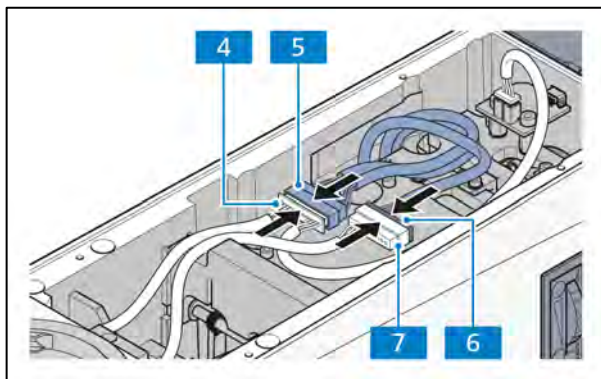

Fig. 3-58 Establish the cable connections
- Establish the cable connections between the main control board (Fig. 3-58/6) of the lower stand part and the nosepiece sensor of the upper stand part (Fig. 3-58/7).
- Establish the cable connection between the main control board (Fig. 3-58/5) and the turret sensor/RL LED interface (Fig. 3-58/4).